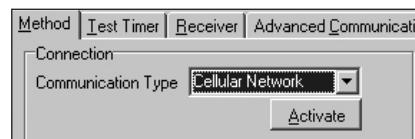

Figure 2: Remote Link Activation
1. In Remote Link panel communication programming, select Cellular Network as the Communication Type and select the Activate button. See Figure 2.